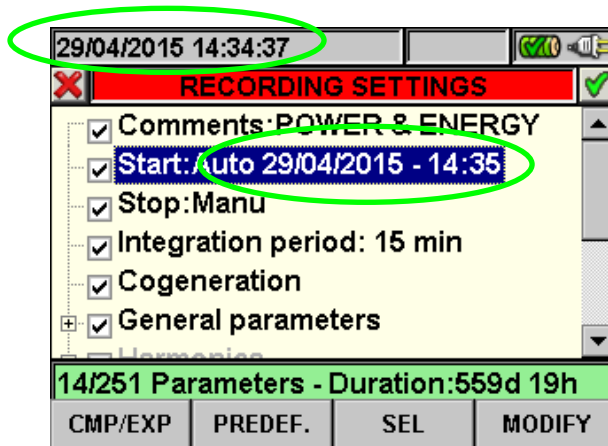

Fig. 109: Correct Date/Hour
3. Use left or right arrows keys to move on date and hour fields. Using the up arrow key or **F3 (MOD(+))** key to increase the value and the down arrow key or **F4 (MOD(-))** key to decrease the value. Set a correct Date/Hour as shown in Fig. 109